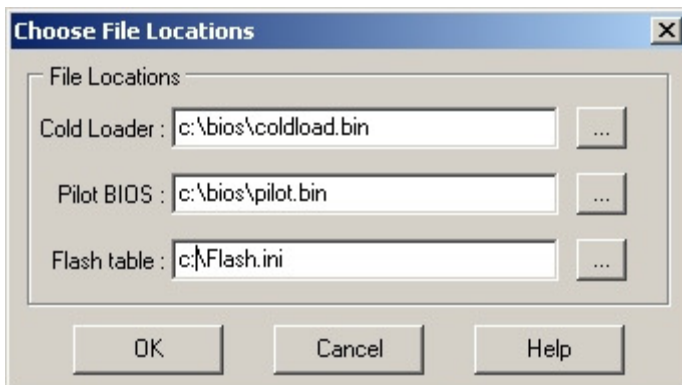

Figure 1-5. RFU - Choose File Locations Window.
5. On the Choose File Locations window (Figure 1-5), fill in the fields with Cold Loader as coldload.bin and Pilot BIOS as pilot.bin. Press the OK button